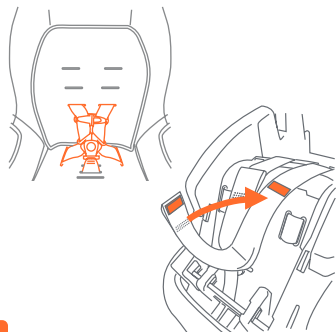
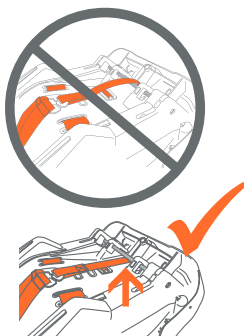

Fig. 31-2
Fig. 31-3
11. When your harness is set at the correct child's position, attach the excess harness straps with the hook and loop on the rear side (Fig. 31-2). **NEVER** route webbing over the release bar (Fig. 31-3).